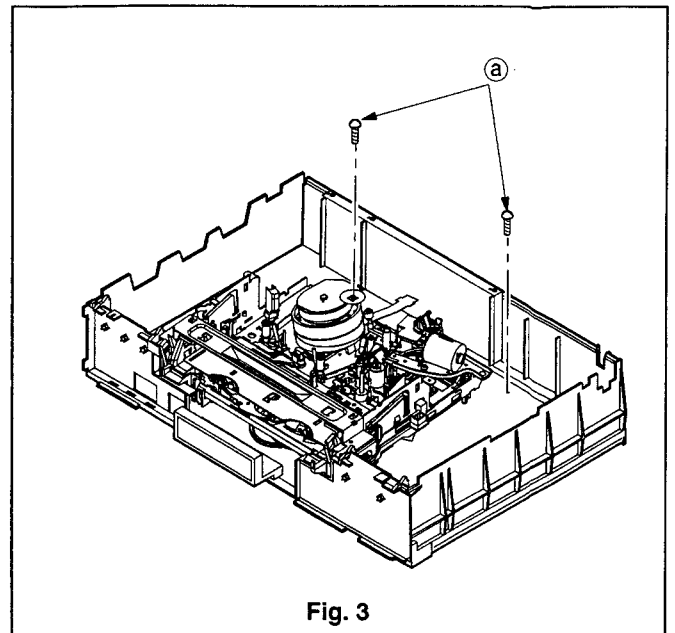

Fig. 3
2. Remove the two fastening screws (a) shown in Fig. 3.